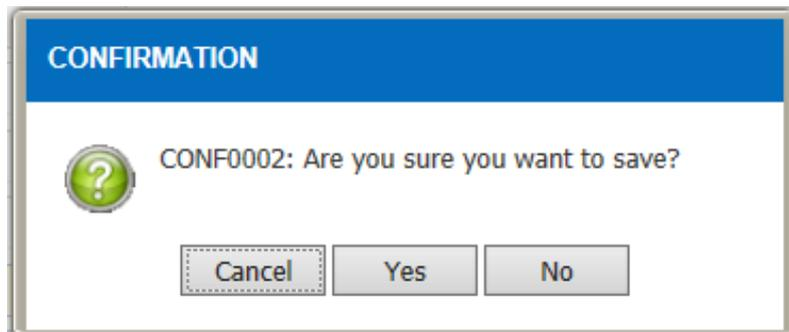

Figure 4.1.7-6 Alert Message
- Click on the  button to confirm the saved transaction and the item information will be displayed as Figure 4.1.7-7